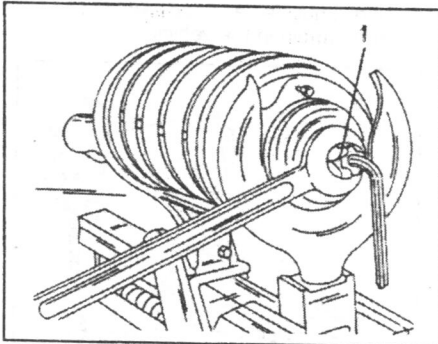

Fig. 5.5. — Slackening of the nut (1) at the end of the piston rod.
- Insert an Allenkey into the end of the piston rod as shown in Fig. 5.5 and slacken the piston rod nut, using a flat or ring spanner of suitable size. Fully unscrew the nut and remove the upper cup, the needle thrust bearing and the stop from the upper end of the spring strut. Remove the rubber rebound stop from the end of the piston rod and the strut from the compressed spring.
- Fit a washer and a new self-locking nut to the end of the piston rod and tighten the nut to 7.0 kgm (50.5 ft.lb.). The piston rod must be held against rotation as shown in Fig. 5.5 until it is possible to apply a socket with torque wrench to the nut. The latter should be tight enough to keep the piston rod in position.